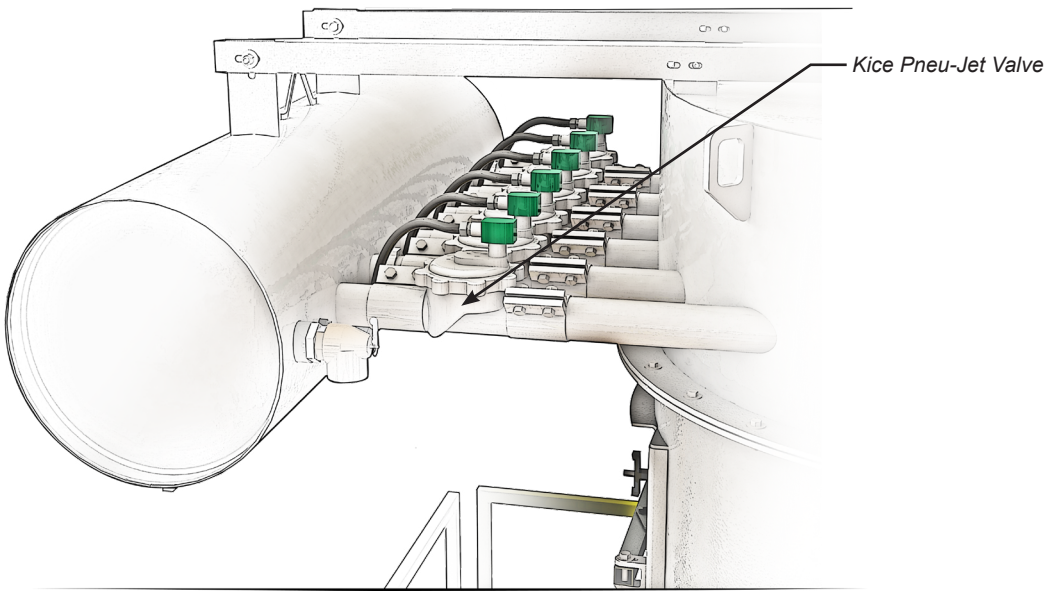
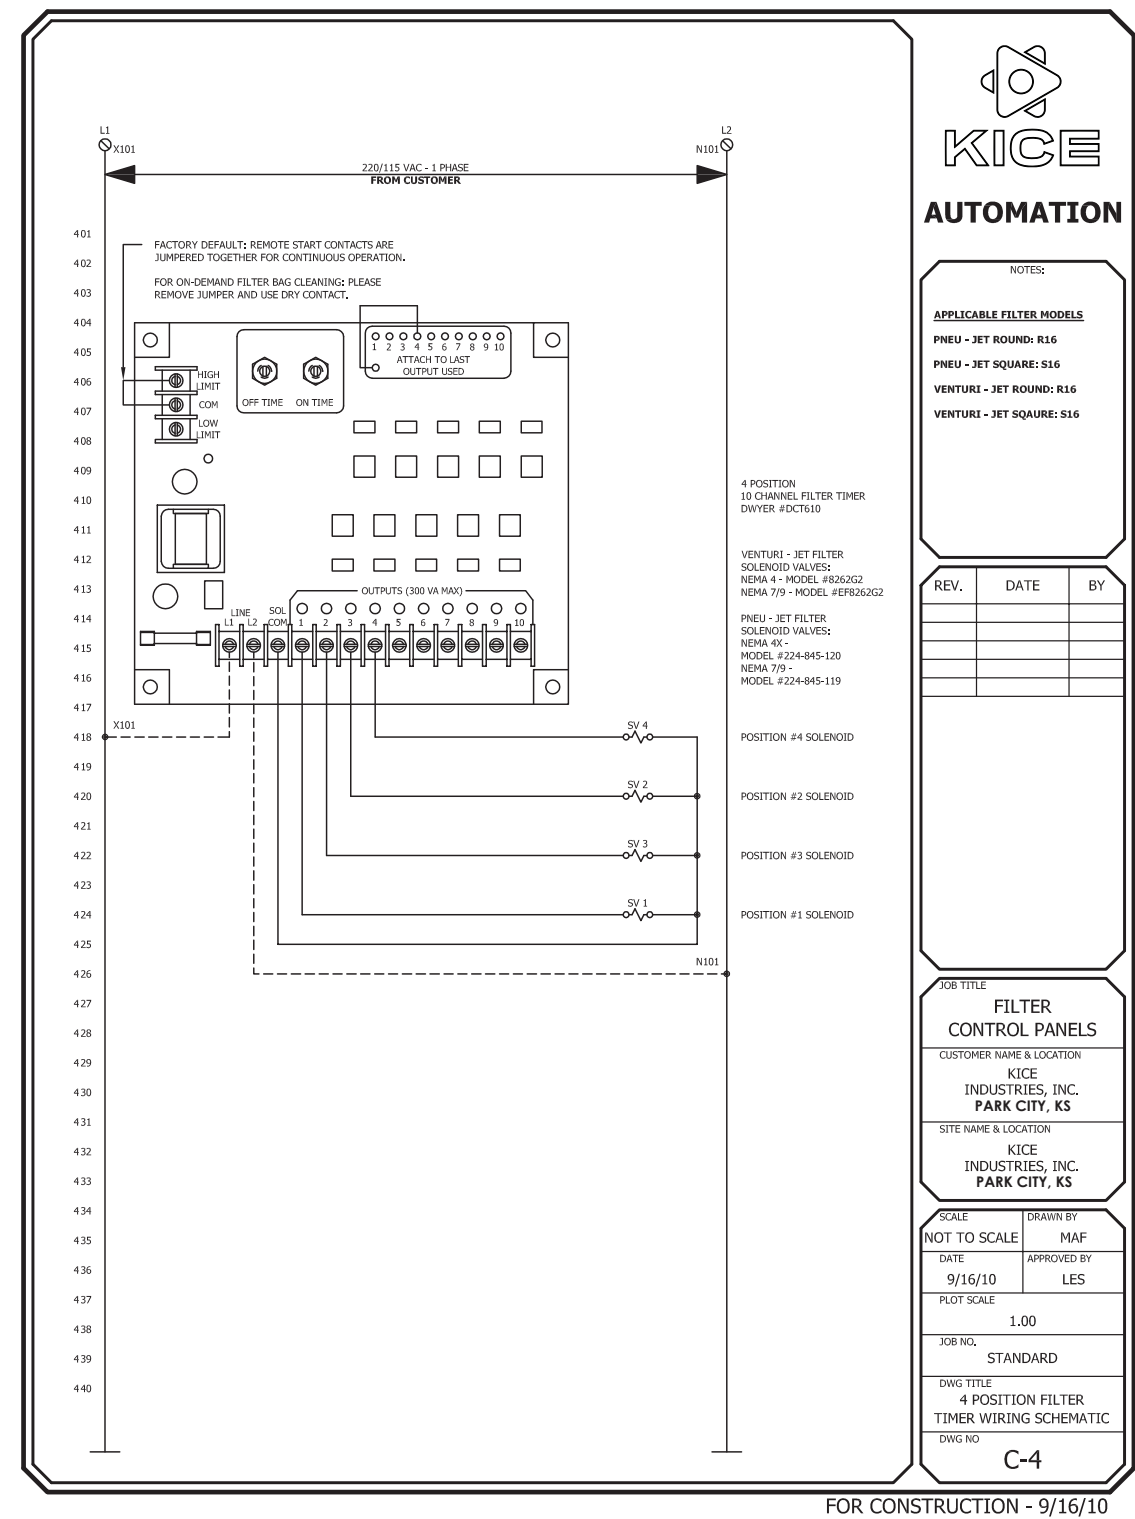

FIGURE 12
FIGURE 14
NOTICE: Reference Figure 14 in the Operating Logic section for example wiring diagram.
The complete Kice Pneu-Jet filter control circuit is shown on (Figure 14) on page 22. The Pneu-Jet valves are mounted between the air tank and the cleaning manifolds. (Figure 12) These valves are an exclusive Kice design to provide a high-energy release of air that is used for cleaning the filter media. The Pneu-Jet valve is a 2 way normally closed, diaphragm type valve utilizing a spring and air pressure above the diaphragm to cause the diaphragm to seal. When the pressurized air above the diaphragm is exhausted to atmosphere, the diaphragm lifts to the open position, discharging the pressurized air (10-15 psig) into the cleaning manifold in a fraction of a second.
Reference the Dwyer Electronic Controller Schematic (Figure 14) on page 22 for more detail.
Reference the Ametek NCC Electronic Controller Schematic (see Figure 14) on page 22 for more detail.
- 3. Controls should be wired in accordance with schematic diagram (Figure 14). Square and round model filters are normally pre-wired, fully assembled and tested at the factory. Check all wiring connections to assure proper bag cleaning sequence. The air tank pressure gauge should have a working range of 0-30 psig.